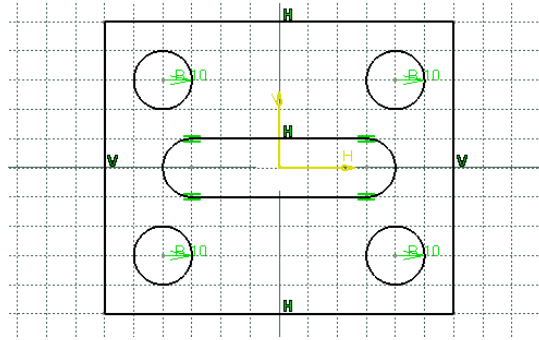

Figure 2-44 The final sketch
15. Similarly, draw the other two circles. The coordinates of the center point of the other two circles are -40, 30 and -40, -30, respectively. The final sketch, with the display of constraints turned on, is shown in Figure 2-44.